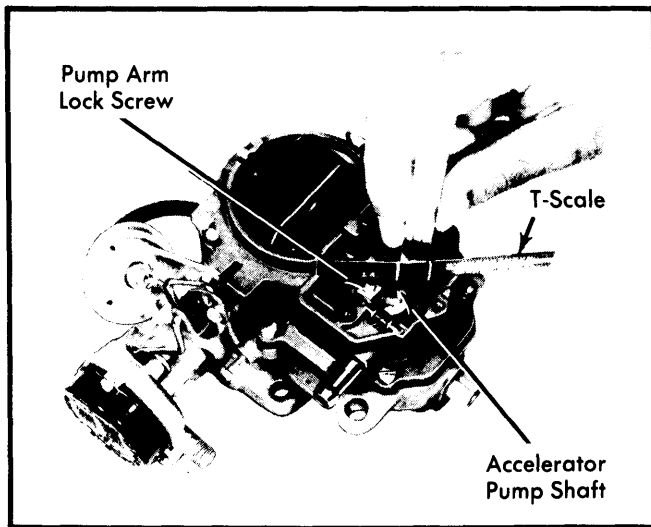

Fig. 6 Adjusting Accelerator Pump Stroke
1) Remove step-up piston cover plate and gasket. Back off curb idle speed screw until throttle valves are seated. Count number of turns required to seat throttle valves. Fast idle cam must be in open choke position. See Fig. 6.
2) Now turn curb idle screw clockwise until it just touches stop. Continue (2) more complete turns.